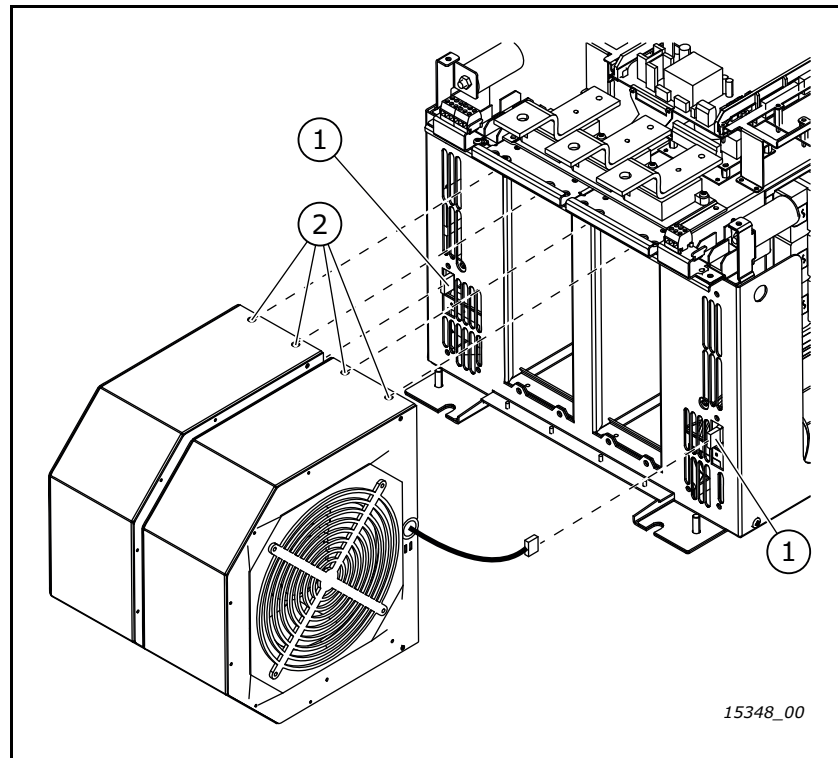

Figure 59. Removing the AC fans
2	<p>Install the two DC fans. The fans are mounted in the same way as the old AC fans (see Figure 59 on page 40). Use the four M6x20 mounting screws (MC00042) supplied in the retrofit kit.</p> <p>When installing the fans, make sure that the pins (X) are aligned with the holes in the drive frame. First, install the backside of the assembly. Then, lift the frontside up in order to align the screw holes.</p> <div data-bbox="564 860 1195 1496"></div> <p data-bbox="708 1514 1050 1554">Figure 64. Installing the fan</p>